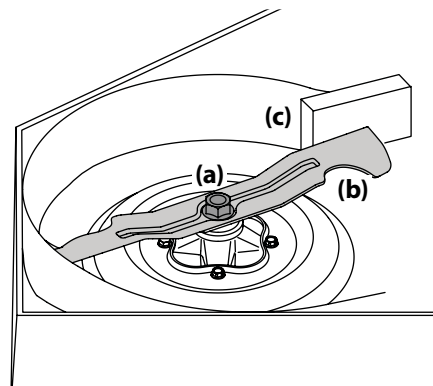

Figure 4-18
- Use a $1\frac{5}{16}$ " wrench to hold the hex nut on top of the spindle assembly when loosening the hex nut (a) securing the blade (b). A block of wood (c) may be placed between the deck housing and the cutting edge of the blade (b) to help in breaking loose the hex nut (a) securing the blade. See Figure 4-18.